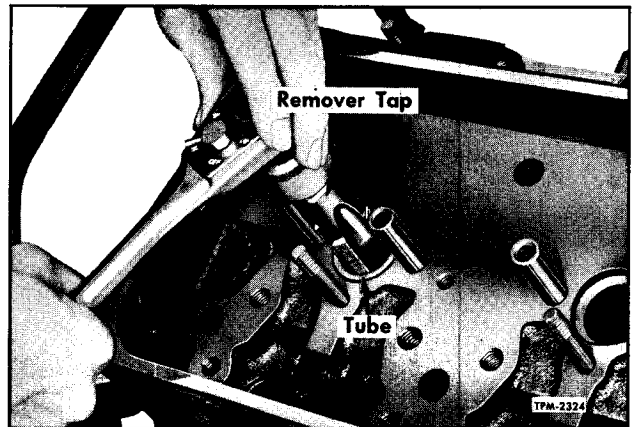

Figure 76—Removing Injector Copper Tube from Cylinder Head (Operation No. 1)
2. Apply a small amount of light engine oil to inside of copper tube, then thread tap into copper tube until approximately $\frac{1}{4}$ " of threads are obtained. Refer to figure 76.